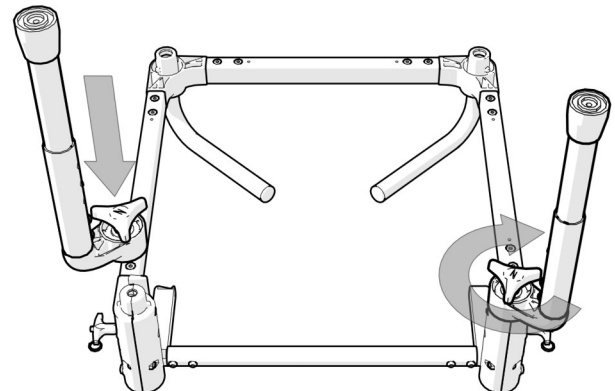

Figure 2.3 Leg installation in 45-degree outward orientation for use over a toilet.
3. Install one leg on the frame in the 45-degree outward orientation (Figure 2.3).